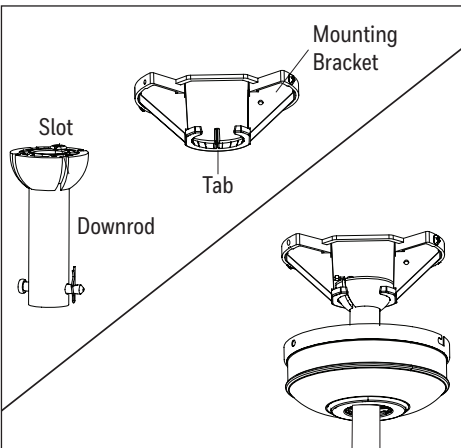

Figure 3.4
4. Lift the downrod into the mounting bracket. Rotate the downrod until the tab in the mounting bracket is seated in the slot in the downrod ball (Figure 3.4). **WARNING:** Failure to align the slot in the ball with the tap on the mounting bracket may cause the fan to fall, which could result in injury or death.